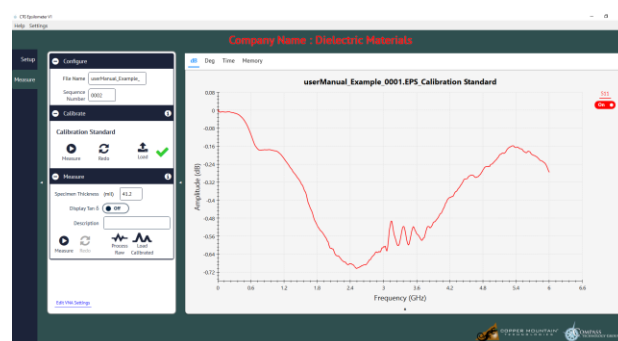

Figure 11. Calibration Success (dB Plot Tab)
4. Click “Measure” in the “Calibrate” Group Box. Notice the red ‘X’ turned into a green checkmark. (Figure 11). (Appendix 1.3 for more detail). Make sure the plot appears and the tab on the left is “dB.” The plot should look similar to the right side of Figure 11. The Teflon calibration specimen may now be removed.